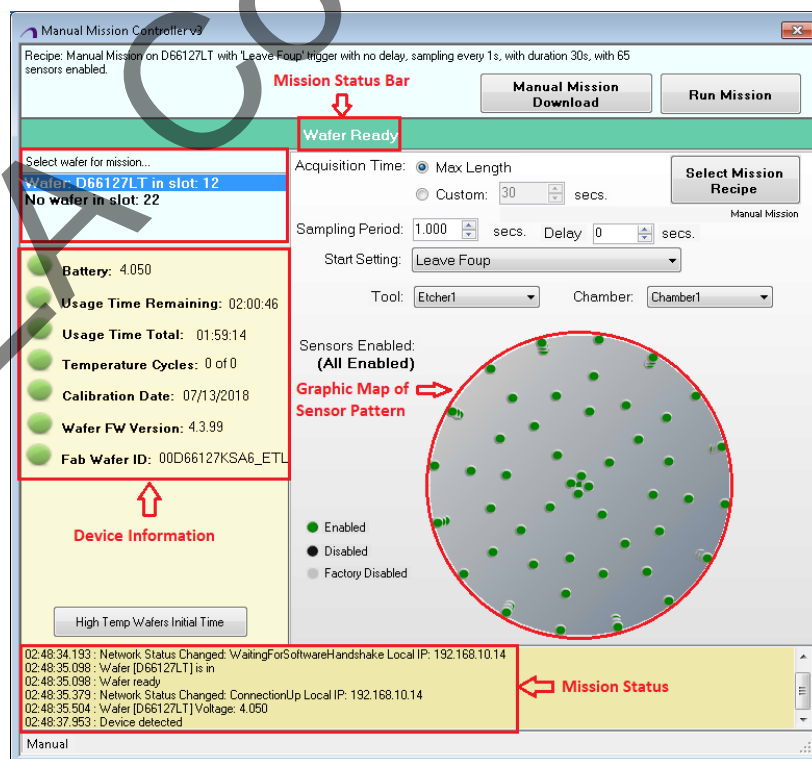

Figure 5-22 Manual Mission Controller window
4. Connect the network cable between AM FOUF and Laptop. The **Manual Mission** communication window will display the wafer map and the device information, as shown in Figure 5-22.
1. Select the ET LT wafer from the **Select wafer for mission...** panel, as shown in Figure 5-22.